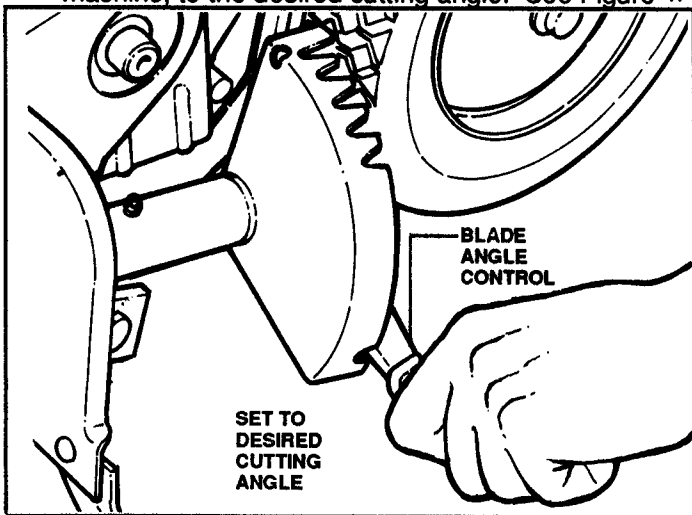

FIGURE 4
2. **ADJUST BLADE CUTTING ANGLE** by setting the blade angle control, on the L.H. side of the machine, to the desired cutting angle. See Figure 4.